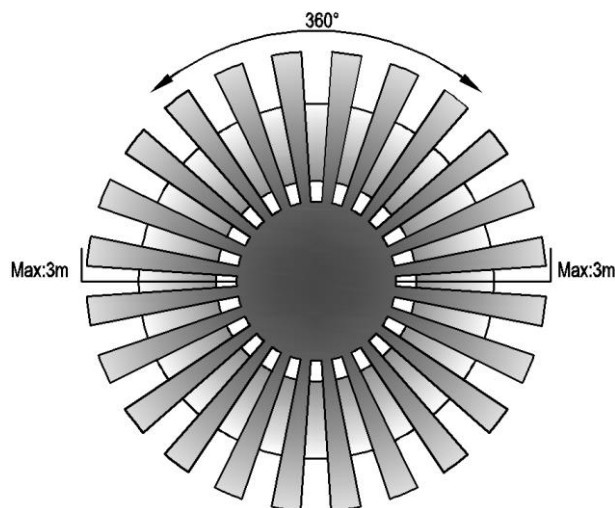

Fig. 2
- The detection area is approximately 6 metre diameter at an angle of 360° wide. This may vary depending on the mounting height and location. Fig. 2
2. Press the springs (C) up and in towards the frame (B) and install the frame (B) into the cut-out hole. Fig.2
2. Cut an installation hole of Ø 92mm into the ceiling. Fig.2